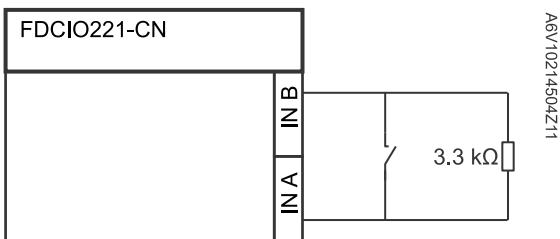
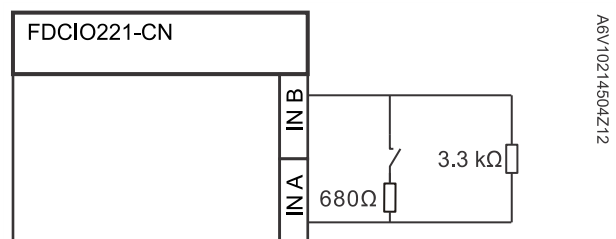

Fig. 8
Fig. 9
- Input monitored for open line: Fig. 8
- Input monitored for open line and short-circuit: Fig. 9
3. Connect the termination resistor (Fig. 8 and Fig. 9). Termination resistors are shipped with the product.